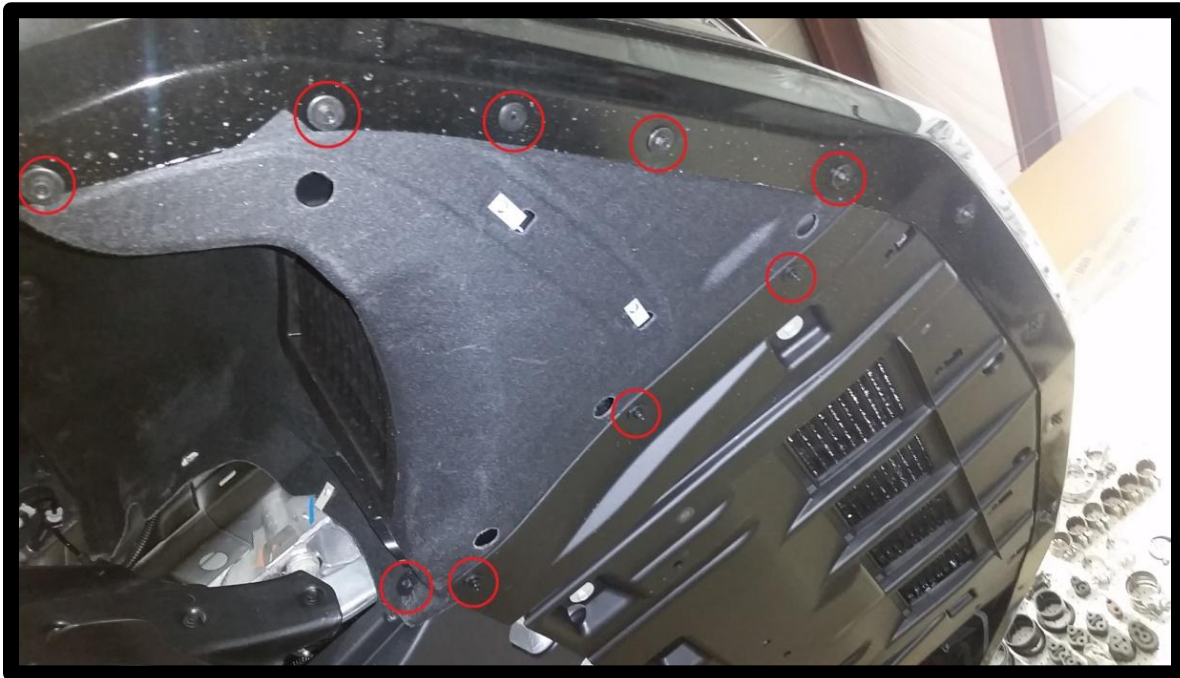

Figure 2: Front Wheel Liner Hardware (1/3)
3. Remove the front wheel liner, see Figures 2, 3, and 4.